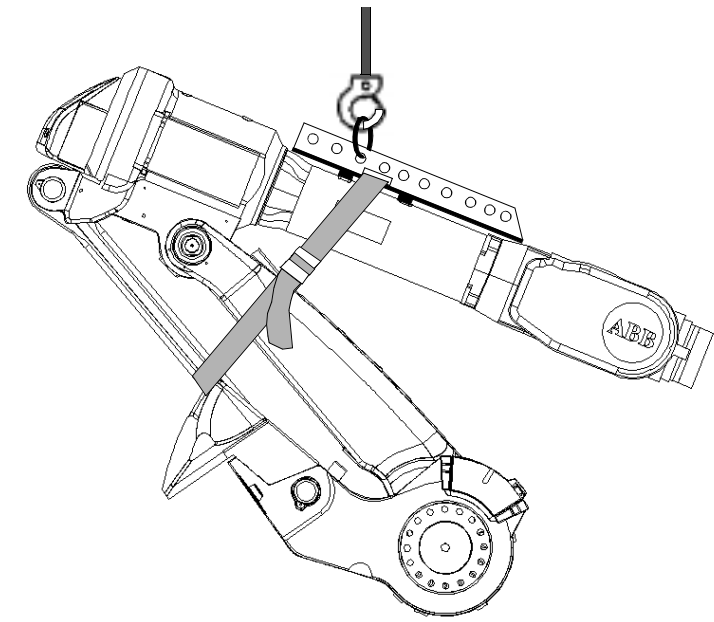

Figure 13 Lifting position
3. Place the robot in the position as shown below and tie the upper and lower arms together with a strap (see Figure 13, Lifting position).